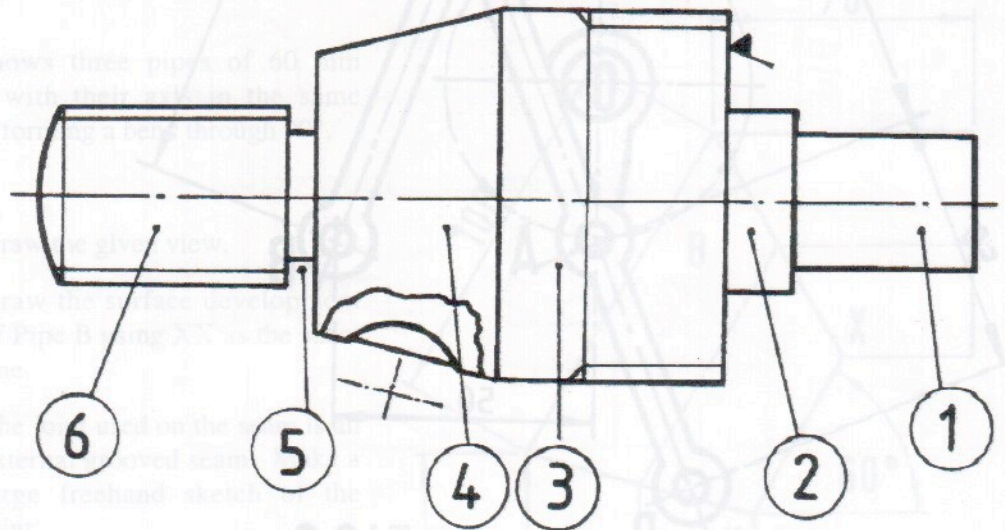

FIG.4
4. (a) Using the data table below, make a fully dimensioned drawing, showing all specifications machine part shown in Fig. 4. Use the shoulder indexed as a datum.